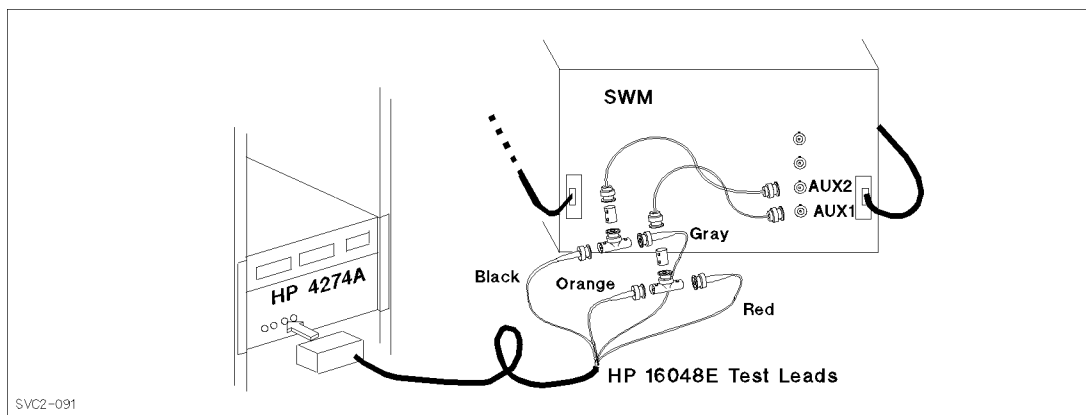

Figure 2-44. Cable Connections for the HP 4274A LCR
2. Be sure the test leads are connected to the AUX1 and AUX2 terminals of the SWM as shown in Figure 2-44.
- Remove the BNC f-to-f adapter and reconnect the BNC-T adapters (with the test leads) to the AUX1 and AUX2 terminals of the SWM as shown in Figure 2-44.